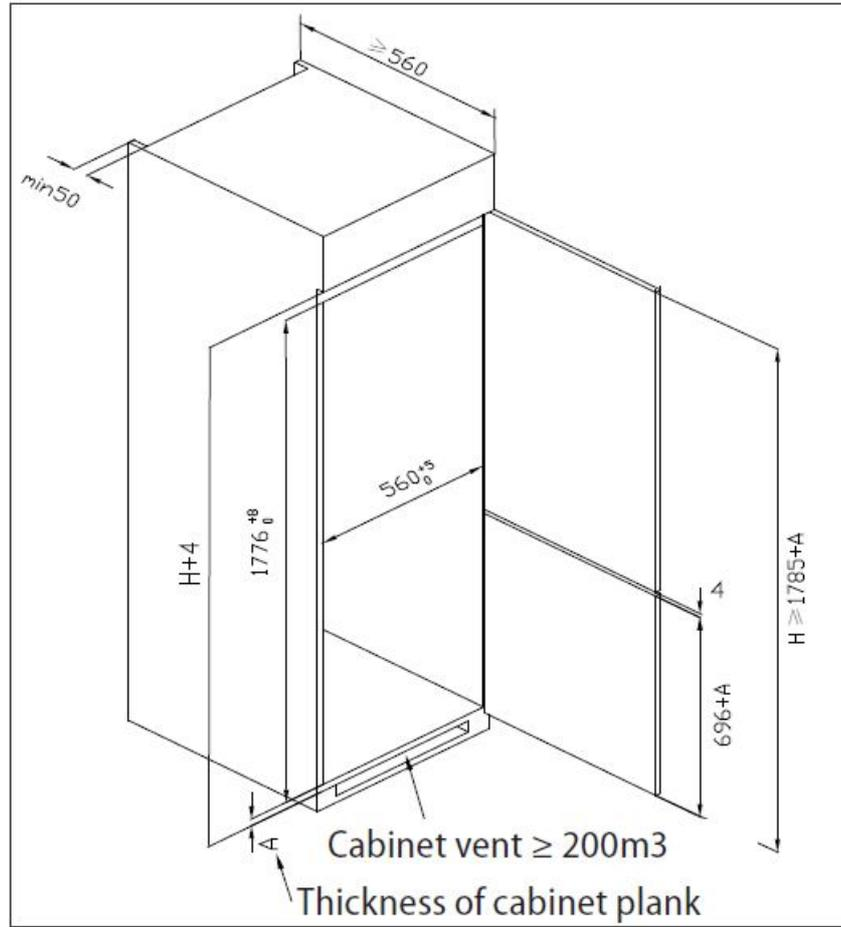

Fig. 1
- The appliance is installed in standardized kitchen furniture designed for built-in appliances or in properly adapted furniture of dimensions according to Fig. 1. The dimensions in the table are given in mm.
2. The required dimensions of the cabinet for the installation are shown in Fig. 1. To provide an effective air circulation around the appliance, ensure there is a sufficient space as shown in Fig. 2.